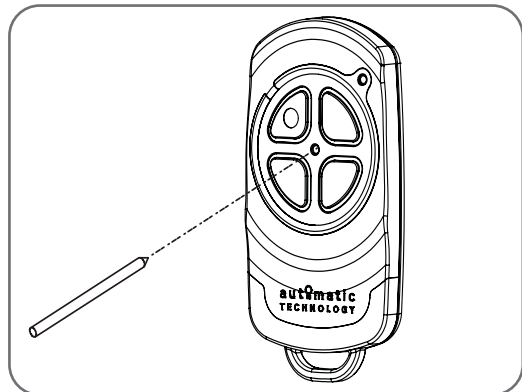

Fig.6.6.4
- Using a small needle / pen, press and hold firmly for two seconds the middle button, through the Coding Hole (Fig 6.6.4).
- Within ten (10) seconds take the additional transmitter you wish to code. Hold the new transmitter's button for two seconds, pause for two seconds, hold again for two seconds and then release.
- Wait for ten (10) seconds and then press the new transmitter's button to test.